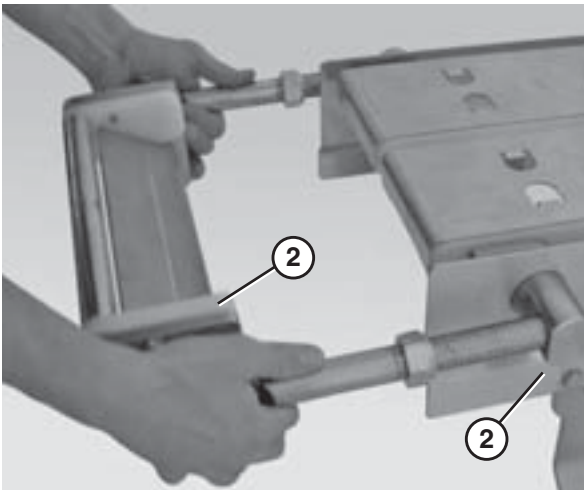

Figure 80
2. Slide the nose bar tail assembly (Figure 80, item 1) out of the take up blocks (Figure 80, item 2).